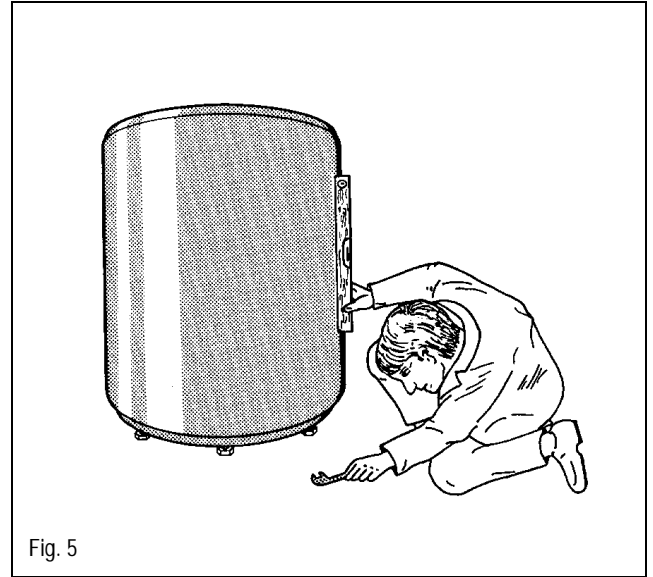

Fig. 5
- Adjust the screw-in feet to level the tank (Fig. 5).